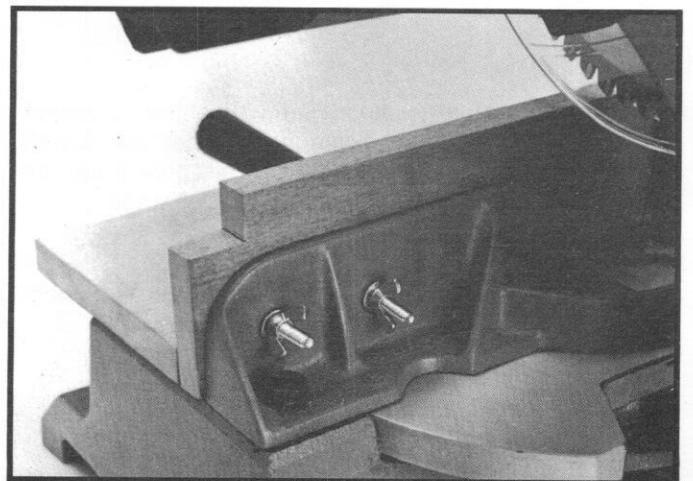

Fig. 3
3. Fasten the support to the fence of the miter box utilizing the four holes located on the miter box fence, as shown in Figure 3. We recommend for ease of removal and assembly of the support, hanger bolts and wing nuts be used.